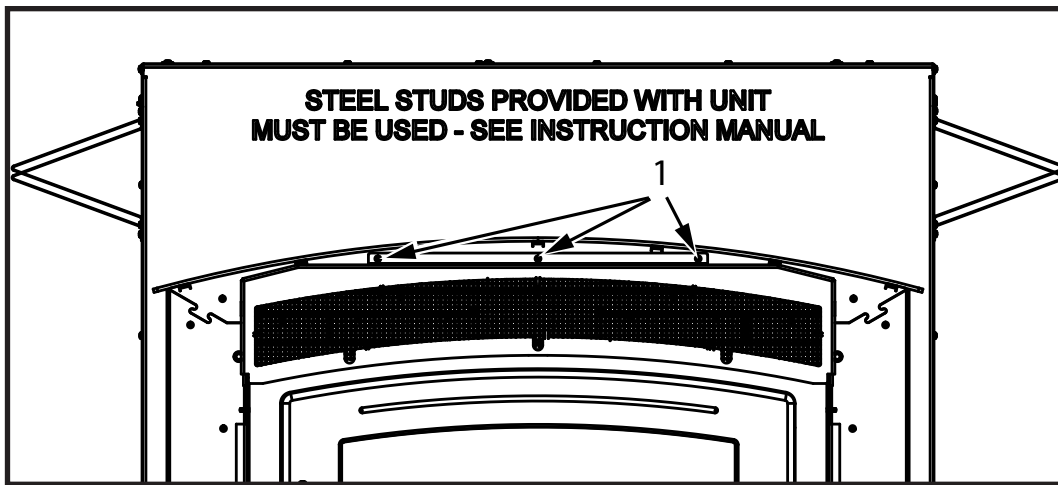

Figure 8: FP30 Craftsman Top Grill mounting screws.
2. Attach the Upper Grill by screwing three (3) #8 self drilling screws through the holes in the Grill as well as the holes in the Top Brow Mount into the fireplace front (Figure 8).